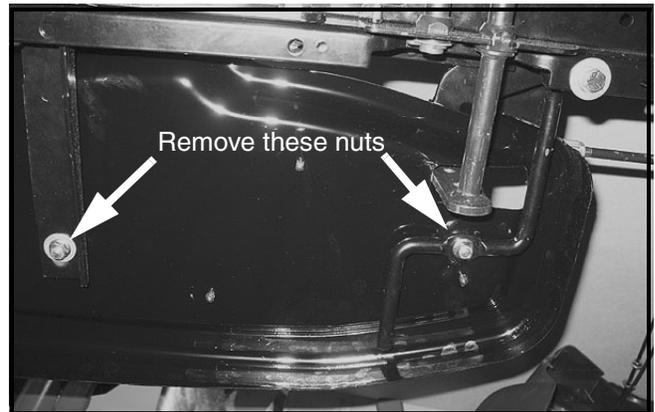

**FIGURE 13**
31. Disconnect the wires from the seat switch. See Figure 13.
32. Remove the two nuts and two screws, one each on each side) retaining the seat bracket to the fender. See Figure 13. Remove the Seat bracket and seat as one piece.